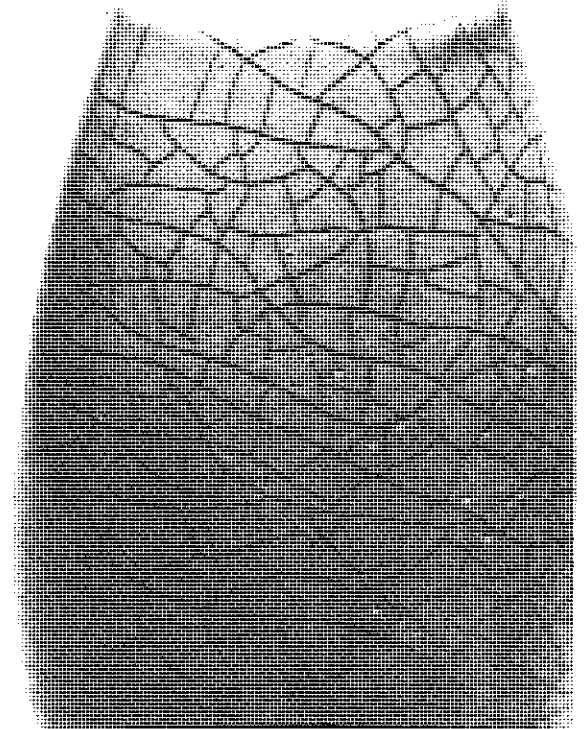

Fig. 16 Pinholes, crazing
**Crawled Glaze**—The condition known as “crawling” is one whereby blank or “bald” spots appear in the glaze surface after firing. See Fig. 16.
**Pinholes**—Pinholes are tiny indentations in the glaze surface which are generally no larger than the point of a pin. This fault may occur in almost any type of glaze, and is caused by underfiring. See Fig. 16. To salvage such a piece, refire at a higher temperature.
**Crazing**—Crazing is characterized by a network of fine cracks in the glaze surface. See Fig. 16. This condition may be caused by underfired clay or glaze, incompatible clay and glaze, and/or by opening the kiln door either fully or partially before the ware is completely cooled. Crazing may be eliminated by refiring the piece to a temperature one cone higher than the original firing.